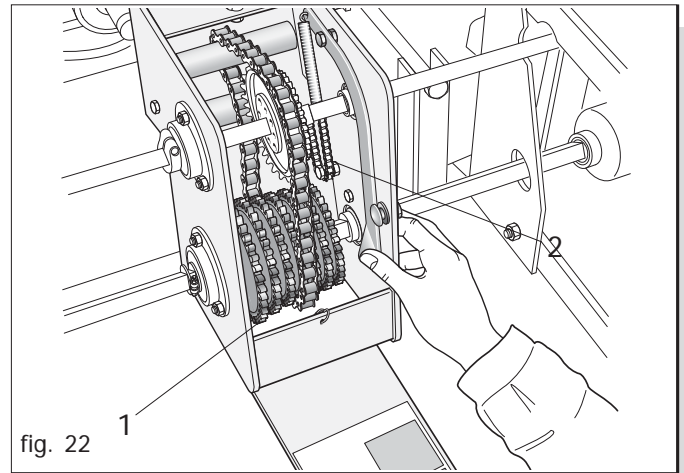

fig. 22
- To move the chain, open the gearbox cover and loosen the chain (1 Fig. 22) by means of the lever (2);
- Tighten the chain again with the lever (2 Fig. 22) and close the cover.